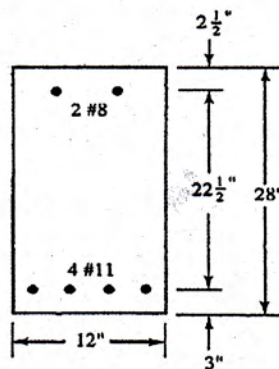

Figure 1
- a) Calculate the cracking moment of the above section and comment on whether the beam has cracked or not for a 30 k-ft imposed moment. (3)
- b) Calculate the stresses in concrete and steel when the above section is subjected to a moment of 30 k-ft. (3)
- c) Calculate the nominal moment capacity of the above section. (4)
2. (a) Design a rectangular simply supported beam for a 22-ft span if a dead load of 1 k/ft (including the beam weight) and a live load of 2 k/ft are to be supported. Use $f'_c = 4000$ psi and $f_y = 60,000$ psi. Use USD method. (7)
- (b) Write three sources of uncertainty in the analysis, design and construction of reinforced concrete structures. (3)
3. (a) Calculate the nominal and design moment capacity of the beam shown in **Figure 1** (8)